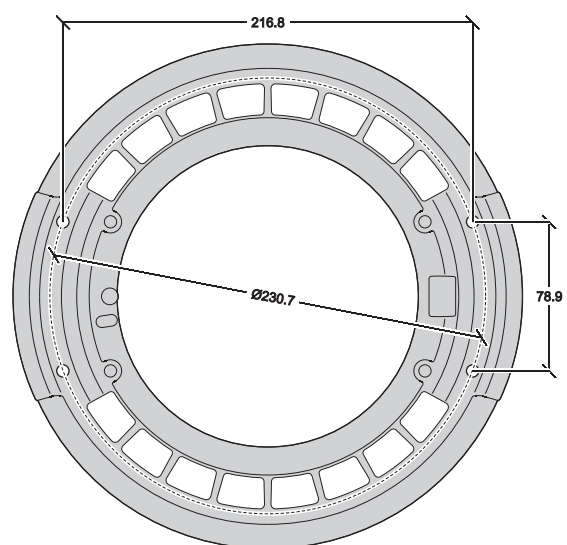

Figure 13: Dimensions for handle
Warning! Screws used to fasten any item to the rear of the head may only be fastened into the holes (arrowed in Figure 13) provided in the rear head cover. Do not attempt to fasten any item to the rear of the head by any other method. Screws must not protrude more than 15 mm (0.6 inches) into the rear head cover, or there is a danger that they may damage insulation inside the head and create a risk of serious or lethal electric shock for the operator.
- Four holes (arrowed in Figure 13) are provided in the MAC III Profile rear head cover for fastening followspot handle mounting brackets.
Besides being constructed so that they will not foul the yoke at any point in the tilt range, mounting brackets must match the dimensions shown in Figure 13.
Dimensions in Figure 13 are shown in millimeters: